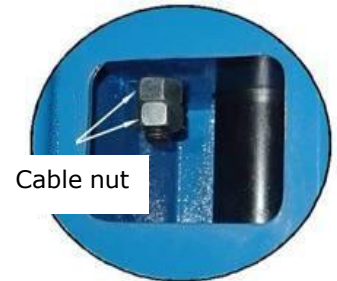

Fig. 61
1. Adjustment of sync cables (See Fig. 61)